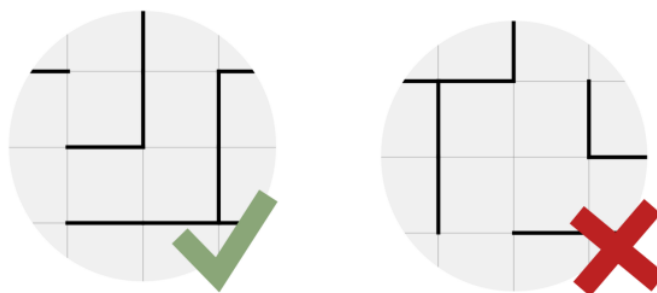

Fig. 4. Features of the arrangement of the polygon walls
3. Inside any square of four cells there is at least one wall (see Fig. 4).